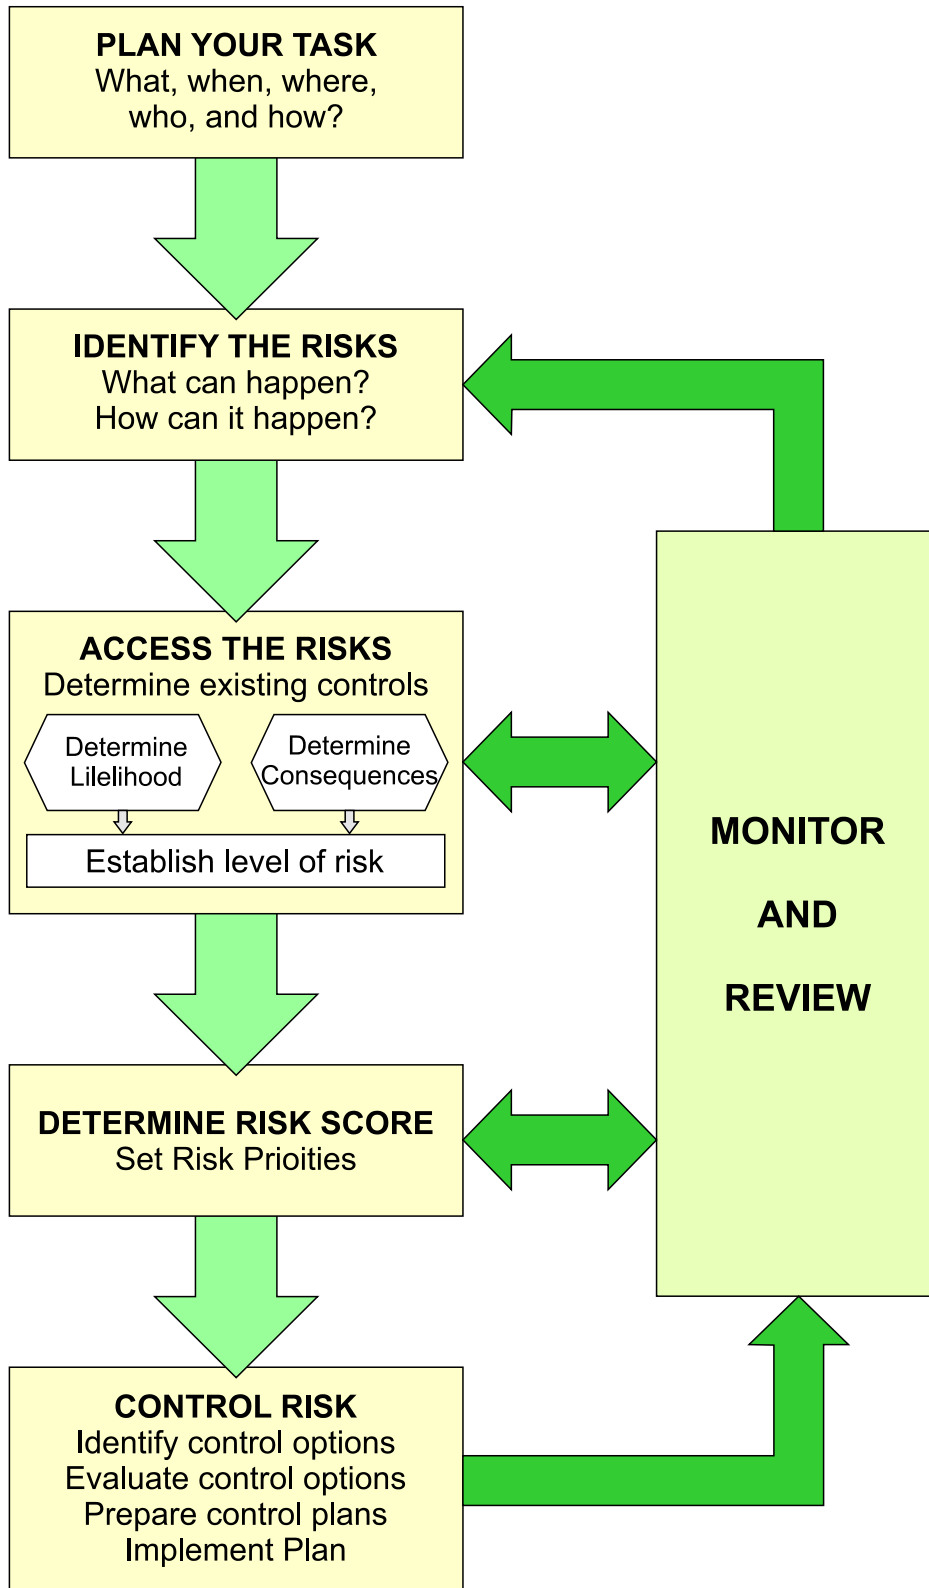

Figure 1 – Risk Assessment Process
- Use the Risk Assessment Process Chart (Figure 1) as a guide to help your process
Refer to Figure 1 – for a visual overview of the Risk Assessment Process.